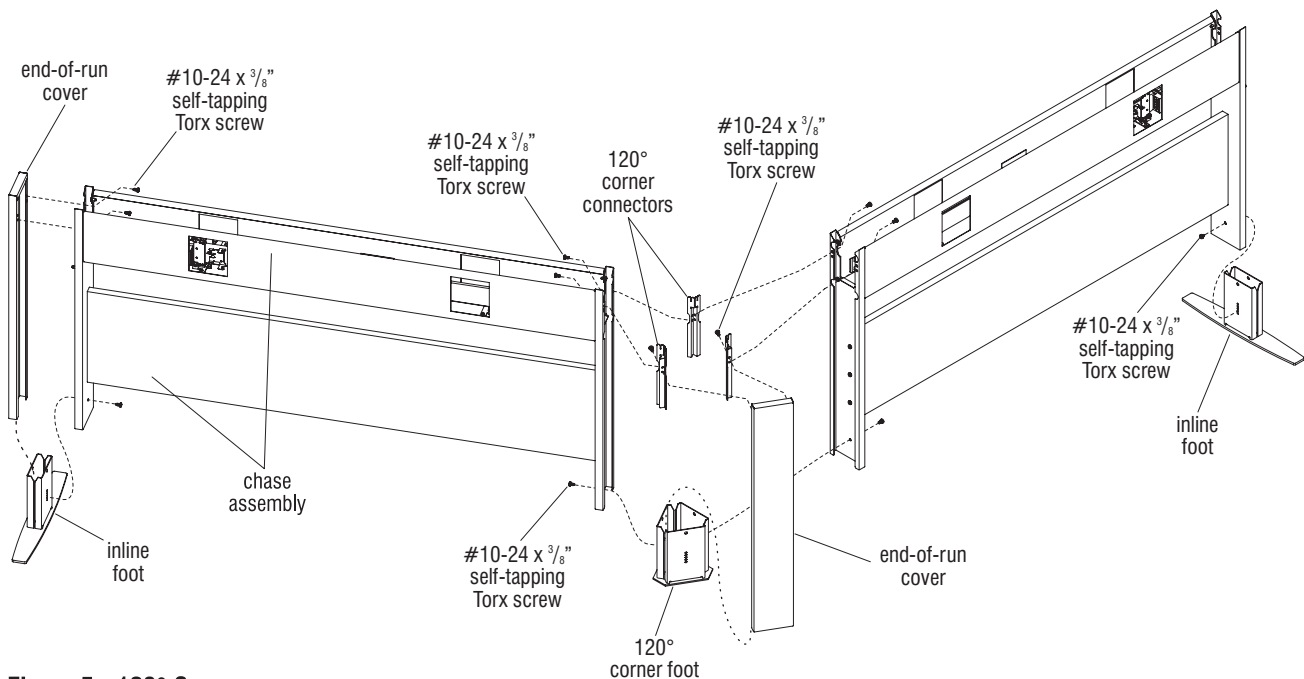

Figure 5 - 120° Corner
Note: The instructions below and Figure 5 illustrate a 120° corner configuration of chase assemblies. Please reference appropriate instructions and the space-planning layout to determine the location and configuration of the room.
3. To install two chase assemblies into a 120° corner, one at a time position the assemblies over a 120° corner foot as shown. Insert the lower part of the chase leg over the upright bracket of the 120° corner foot, in a similar manner as installing to an inline foot (Figure 5).
the adjoining chase assemblies as illustrated, aligning two holes of each chase assembly with the two holes on each flange of the connector. Using a 6" long T-25 driver (supplied), secure each connector to both adjoining chase assemblies as illustrated with one #10-24 x 3/8" self-tapping Torx screw at each 120° corner connector flange (Figure 5).
holes of the 120° corner connectors with the holes in the top of the end-of-run cover and secure using two #10-24 x 3/8" self-tapping torx screws (Figure 5).
6. To install an end-of-run cover to the end of a chase unit, first orient the cover as illustrated with the closed end upward, then insert and press the bottom, open end down over the upright of the inline foot. Next, align the top mounting holes of the end-of-run cover with the mounting holes in the inside, top of the chase leg. Use a 6" long T-25 driver bit (supplied) and secure together using two #10-24 x 3/8" self-tapping Torx Screws (Figure 5).